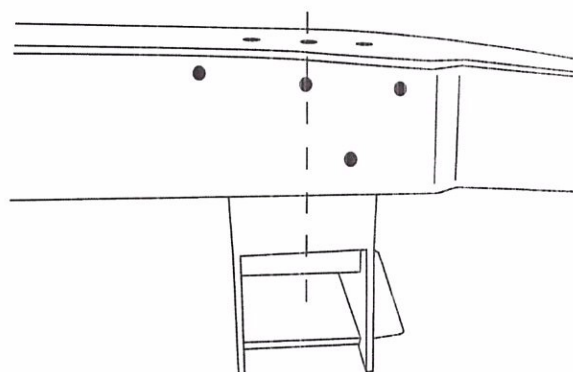

Figure 5
6. Now it is time to start fitting the new crossmember. Slip it into the frame, center it on the scribed axle center line (Figure 5). If it does not fit, check that your frame is the correct width. It should be 27-3/8" wide at the axle center line (scribed line). If it is that dimension, then grind the sides of the crossmember until you can get the crossmember in place, as shown. Tack weld in place, check location, then weld in place, welding all around both ends, top, sides, and bottom. If you installed a temporary brace across the rails, you can now remove it.